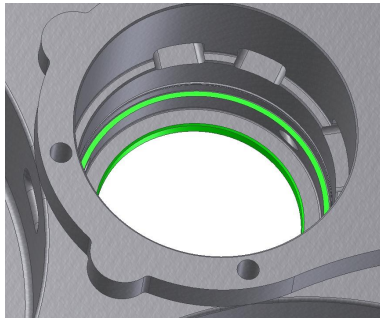

Figure 7-3 - LOCTITE 620 APPLIED TO BEARING HOUSING
6. Install piston rings (10) into the piston ring carrier on gear-end and drive-end of both rotors, one at a time, starting with ring closest to rotor body. Ensure ring ends are hooked together properly. Position ring end gaps 180° from each other.
- 7a. Place drive-end bearing housing (4) in a horizontal position in a hydraulic press with air side surface facing down.
- 7b. Apply a small continuous bead of Loctite 620 to insert mating face and through bore I.D. in bearing housing as shown in FIGURE 7-3.